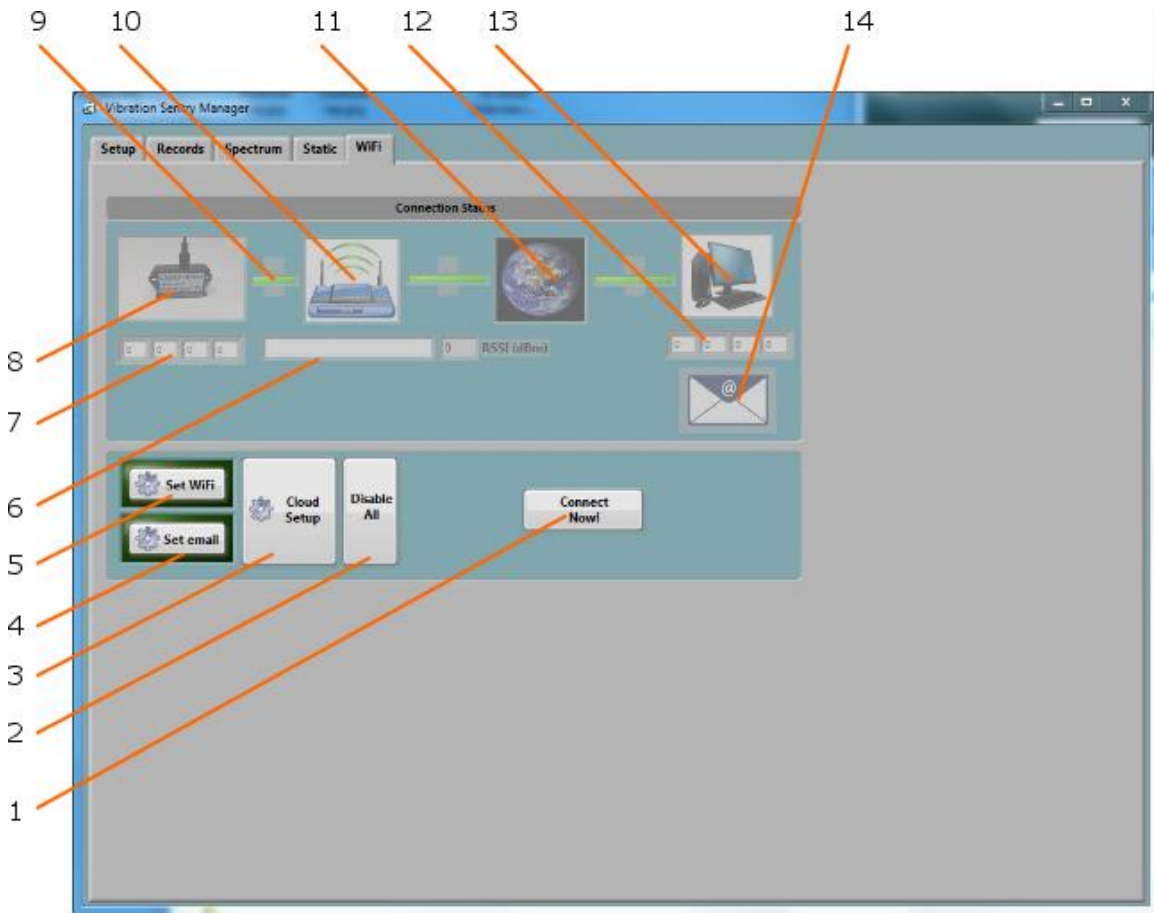

Figure 5 WiFi Tab
- **The WiFi Tab:** Is used to display the present connection state of the `NSRTW_mk3`, and to setup its connection parameters (SSID, Security, Password...etc.) (see Figure 5).